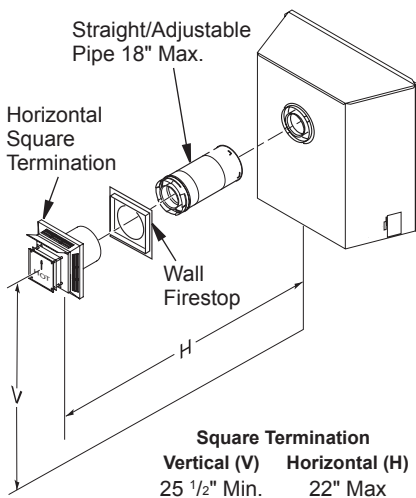

Figure 18 - Horizontal Termination Configuration for Flush Installation (Model (V)(CD)(CDC)36R)
1. Set fireplace in its desired location and determine route your horizontal venting will take. Do not secure fireplace until all venting has been installed. Some installations require sliding fireplace in and out of position to make final venting connections. Figures 18 through 25 on pages 14 through 17 show different configurations for venting with horizontal termination that will help you decide which application best suits your installation. Check to see if wall studs or roof rafters are in the path of your desired venting route. If they are, you may want to adjust location of fireplace.
Figures 18 through 25 show different configurations and alternatives for venting with horizontal termination. Each figure includes a chart with critical minimum and maximum dimensions which **MUST** be met.